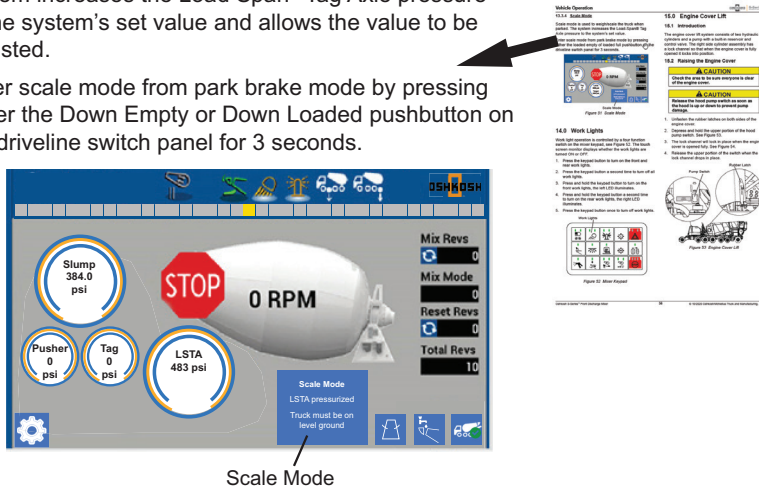

Figure 5 - Operator Manual Updates
- Updated the operator manual to include operation of the Park Brake Mode and Scale Mode, see Figure 5.